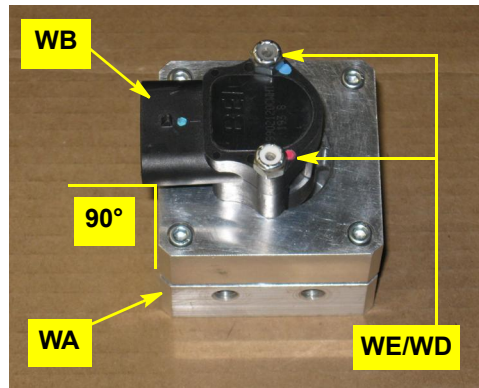

Figure 1a: Prepared WAS housing/connector
- a. Using hardware **WE** (nuts) and **WD** (bolts - not visible), attach the WAS wire connector **WB** to the WAS housing **WA**. Install the bolts up through the bottom of the housing. Set **WB** at 90° to any side of **WA** (Figure 1a).